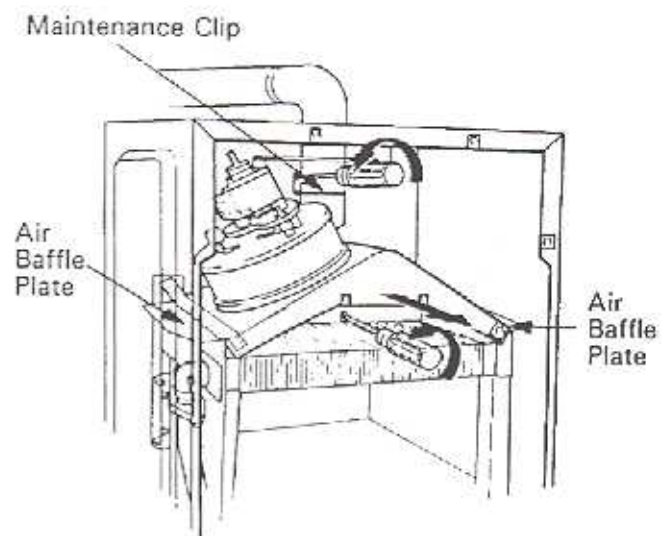

Fig.30
Refer to Fig. 30
- 8.9.2 Loosen maintenance clip securing screws (see fig.30) and slide upwards to clear joint.
- 8.9.3 Remove 2 flue hood retaining screws (see fig.30)